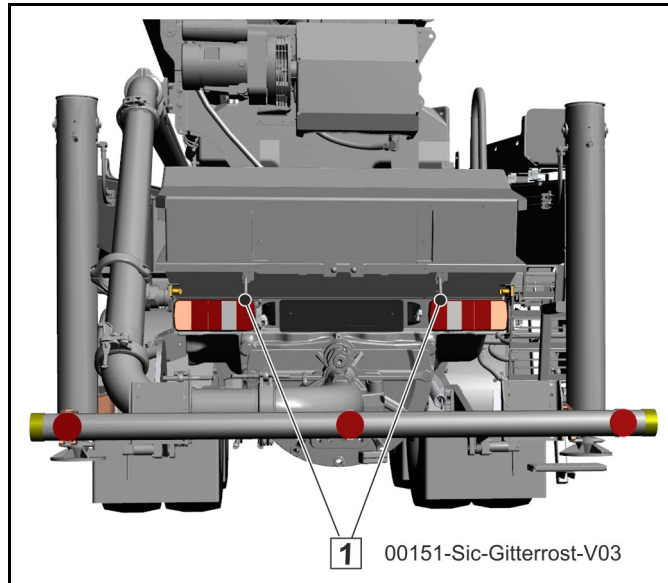

Fig. 52 Hopper grate safety device
- Check the lock (5) of the hopper grate in the concrete feeding hopper (**Fig. 52**).